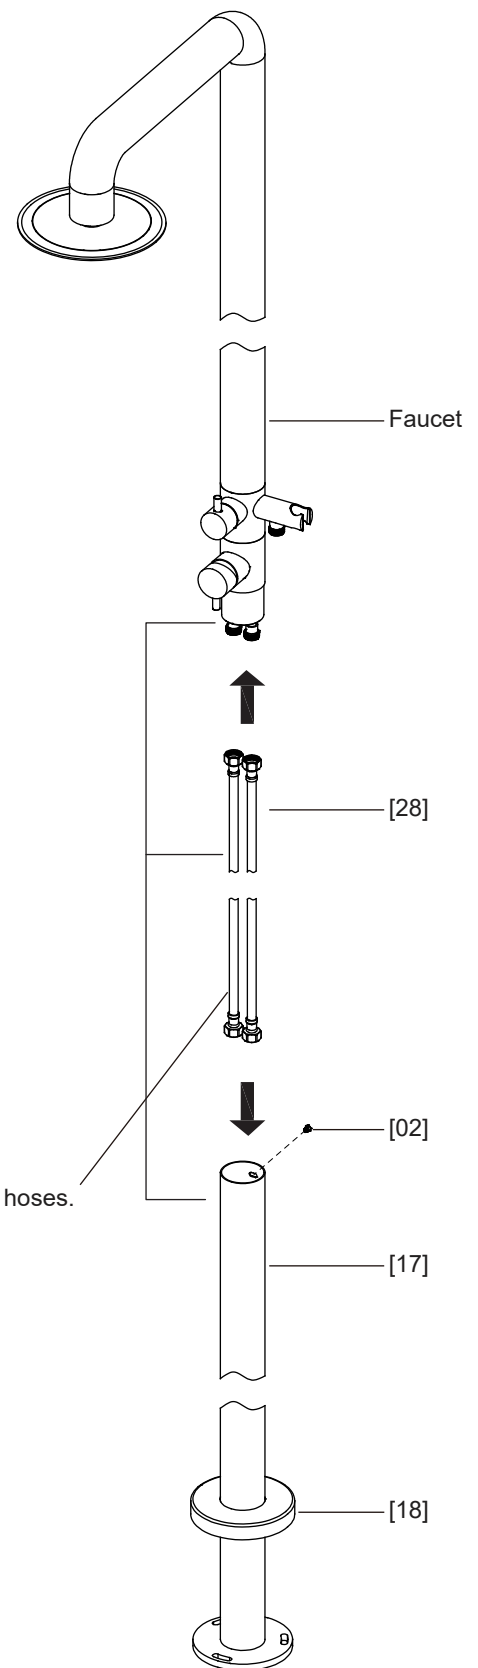

Fig 2
- 2-1** Install the **Hoses [28]** to the **Faucet**. The hose with Hot label connect to the hot inlet of the faucet. The hose with Cold label connect to the cold inlet of the faucet. Tighten the hoses to secure. Do not over tighten. (Fig 2)
- 2-2** Slide the **Escutcheon [18]** to the **Post [17]** as figure shows. (Fig 2)
- 2-3** Slide the **Hoses [28]** to the **Post [17]** and install the **Post [17]** to the **Faucet** as figure shows. Make sure the side holes of the **Post [17]** align with the screw holes of the **Faucet**. (Fig 2)
- 2-4** Secure the **Post [17]** and the **Faucet** with one **Screws [02]** as figure shows. Do not tighten it. (Fig 2)